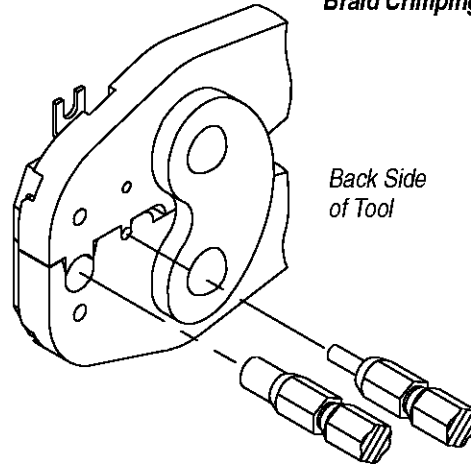

Figure 5
**NOTE** Insert BRAID GAP plug gage in the crimping chamber on the FRONT ("CABLE SIDE") of tool and insert BRAID plug gage in the crimping chamber on BACK side of tool. See Figure 5.